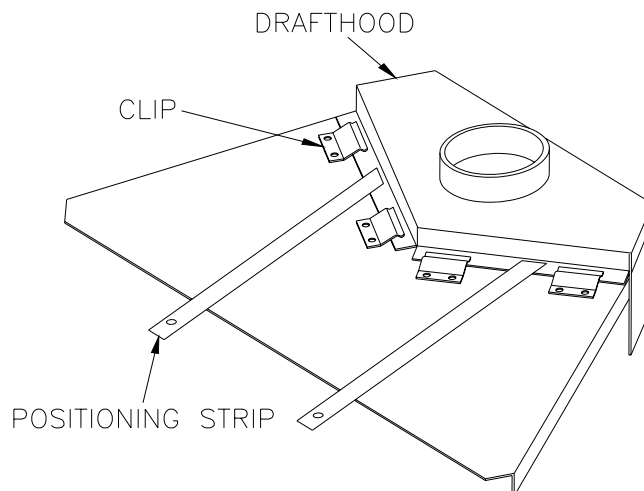

Figure 12
7. Push the insert back until the front firebox flanges are 1/4" (6mm) in front of the masonry or factory built fireplace facing. As the heater is pushed back, pull the draffhood positioning strips firmly toward the heater front until the draffhood flange is secured under the top clips of the heater (Figure 12).